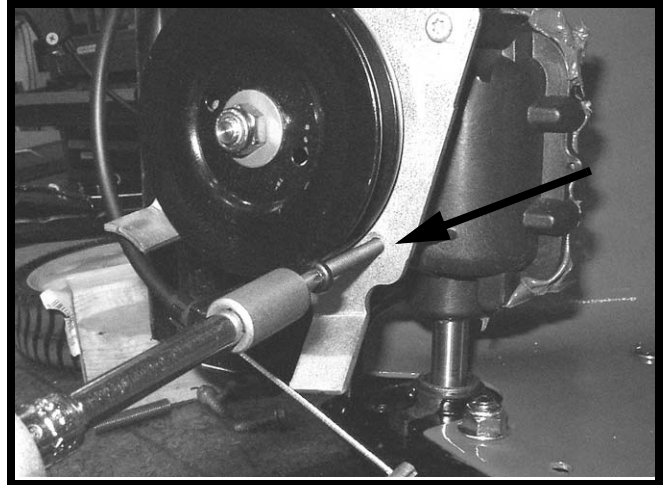

FIGURE 6
16. Using a T25 TORX bit, carefully thread the 710-3143, thread forming screw, into the hole as shown in Figure 6. Form threads to a depth of 5/16" to 3/8". Remove tool.